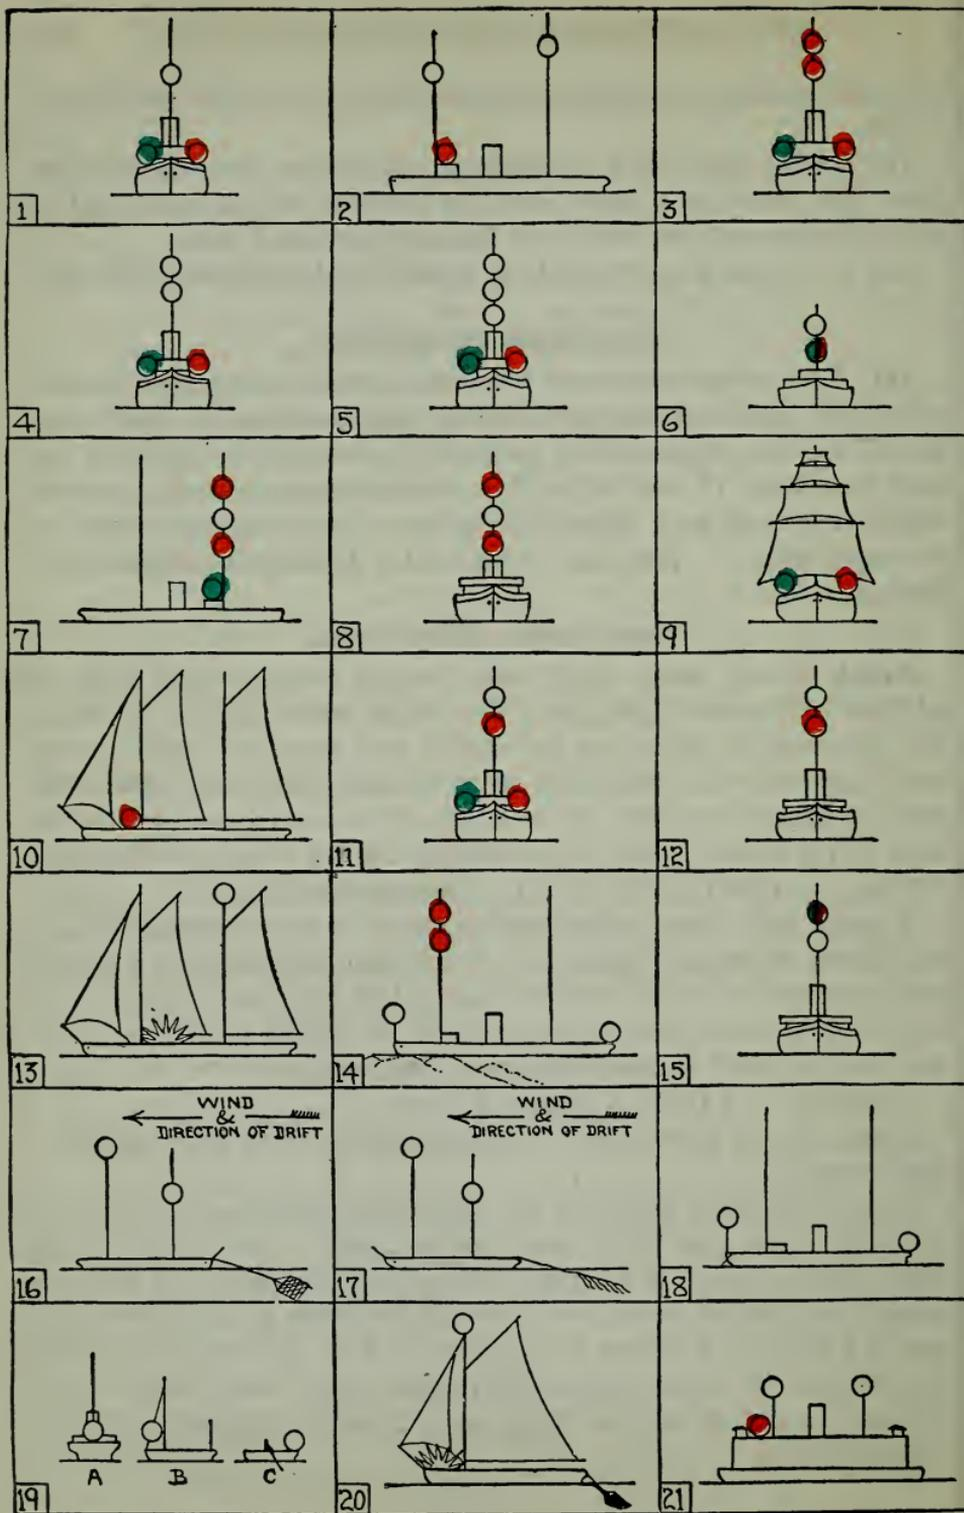

FIG. 45-4—Running lights of vessels.
(d) . . . (See Fig. 45-4 (1).) (Inland and International Rules.)
(e) A sea going steam vessel when under way may carry an additional white light similar in construction to the light mentioned in subdivision (a). These two lights shall be so placed in line with the keel that one shall be at least 15 feet higher than the other, and in such a position with reference to each other that the lower light shall be forward of the upper one. . . . (See Fig. 45-4 (1, 2).) (Inland and International Rules.)
Article 3.—A steam vessel when towing another vessel shall, in addition to her side lights, carry two bright white lights in a vertical line one over the other, not less than 6 feet apart, and when towing more than one vessel shall carry an additional bright white light 6 feet above or below such lights, if the length of the tow measuring from the stern of the towing vessel to the stern of the last vessel towed exceeds 600 feet. . . . (See Fig. 45-4 (4, 5).) (International Rules.)
A steam vessel when towing another vessel or vessels alongside shall, in addition to her side lights, carry two bright white lights in a vertical line, one over the other, not less than 3 feet apart, and when towing one or more vessels astern, regardless of the length of the tow, shall carry an additional bright white light 3 feet above or below such lights. . . . (See Fig. 45-4 (4, 5).) (Inland Rules.)
(a) At the same height as the white light mentioned in Article 2 (a), where they can best be seen, and if a steam vessel in lieu of that light, two red lights, in a vertical line one over the other, not less than 6 feet apart, and of such a character as to be visible all around the horizon at a distance of at least 2 miles; and shall by day carry in a vertical line or over the other, not less than 6 feet apart, where they can best be seen, two black balls or shapes, each 2 feet in diameter. (See Fig. 45-4 (3, 14).)
(b) in the same position as the white light mentioned in Article 2 (a), and if a steam vessel in lieu of that light, three lights in a vertical line one over the other not less than 6 feet apart. The highest and lowest of these lights shall be red, and the middle light shall be white, and they shall be of such a character as to be visible all around the horizon, at a distance of at least 2 miles. By day she shall carry in a vertical line, one over the other, not less than 6 feet apart, where they can best be seen, three shapes not less than 2 feet in diameter, of which the highest and lowest shall be globular in shape and red in color, and the middle one diamond in shape and white. (See Fig. 45-4 (7, 8).)
rarily exhibited in sufficient time to prevent collision. (See Fig. 45-4 (19C).) (Inland Rules.)
Article 10.—A vessel which is being overtaken by another, except a steam vessel with an after range light showing all around the horizon, shall show from her stern to such last-mentioned vessel a white light or a flare-up light. (See Fig. 45-4 (19A).) (Inland and International Rules.)
A vessel of 150 feet or upward in length when at anchor shall carry in the forward part of the vessel, . . . one such light, and at or near the stern of the vessel, and at such a height that it will be no less than 15 feet lower than the forward light, another such light. (See Fig. 45-4 (18, 19B).) (Inland and International Rules.)